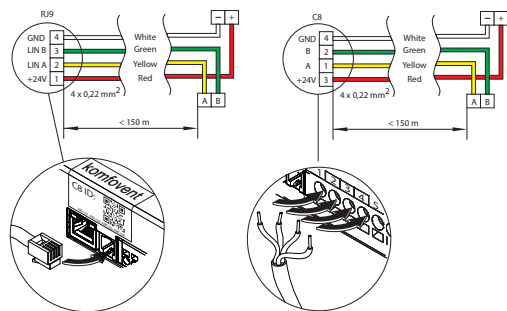

Fig. 23. Control panel cable wiring diagram
- Control panel (see Fig. 23)
- **Outputs TG1 (6–8)** – Power supply and control signal for a water mixing valve actuator of the external heat exchanger or direct evaporation (DX) cooler/heater. Depending on the “External coil” type selected in the settings (see “Domekt User Guide”), the valve actuator will be controlled by a heating or cooling signal. An external pre-heater for frost protection of the CF heat exchanger may also be connected here.
Control panel cable is connected to the C8 main board as shown in Fig. 23. The exception is the R 200 V unit, where, if needed, the panel cable can be also connected to an external RJ10 connector.